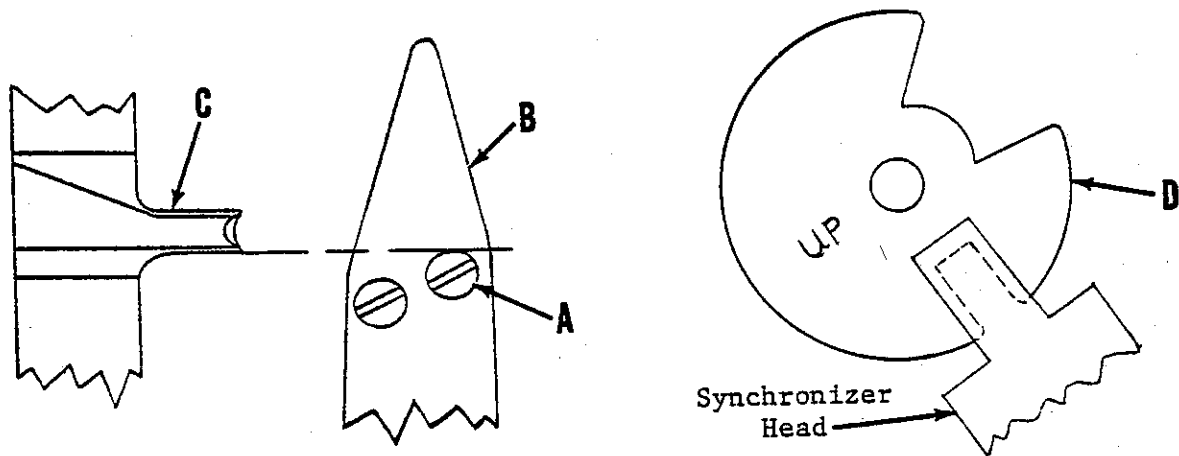

Fig. 37
With power off, turn the handwheel in operating direction until thread take-up is 1/8 inch (3.18 mm) before top dead center, OR leading edge of the first screw (A, Fig. 37) in the hook deflector (B) aligns with front edge of positioning finger (C) with needle in the up position. Rotate the needle-up disc (D) until its smaller opening is centered in the synchronizer head.